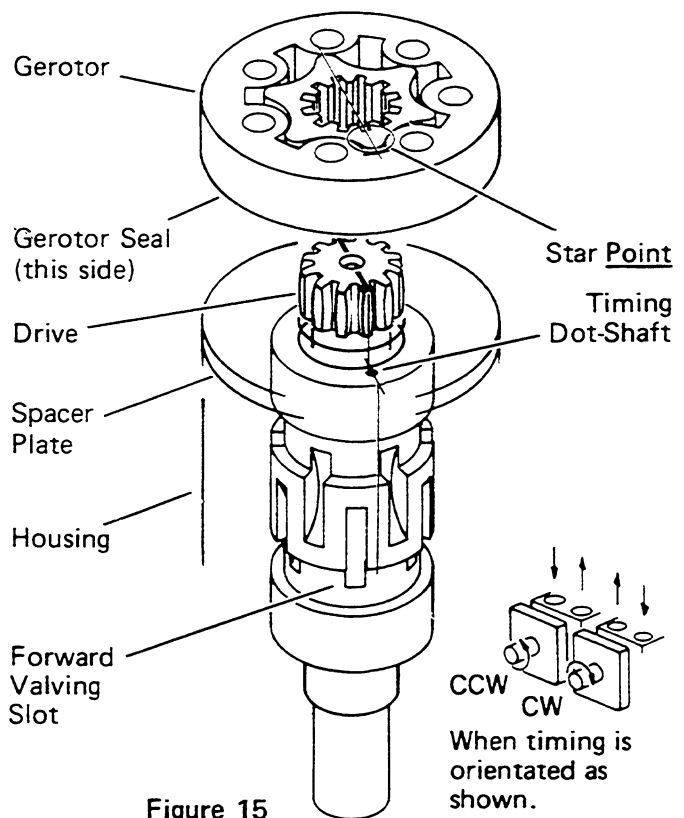

Figure 15
**Standard Rotation** Align any star point with tooth marked on drive. See Figure 15.